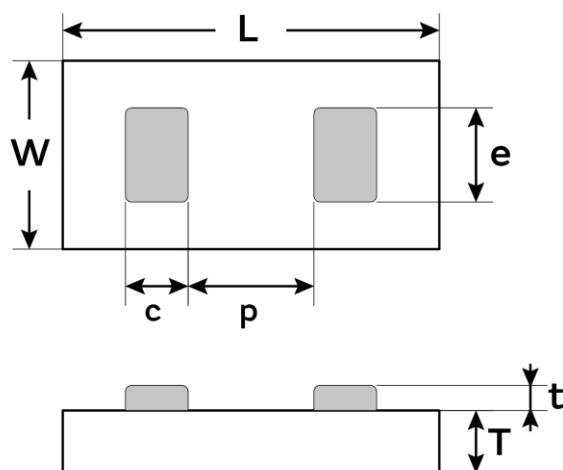

Figure 9 - Package outline
(1) Other Film Frame Carrier are possible on request
(2) SAC = ENIG (0.1µm Au / 5µm Ni) + SAC305 type 6 or ENIG 0.1µm Au / 5µm Ni
(3) Missing capacitors can reach 0.5%
(4) Refer to Figure 9
(5) Dedicated for Pre-Production
(6) For all demands including Mass Production